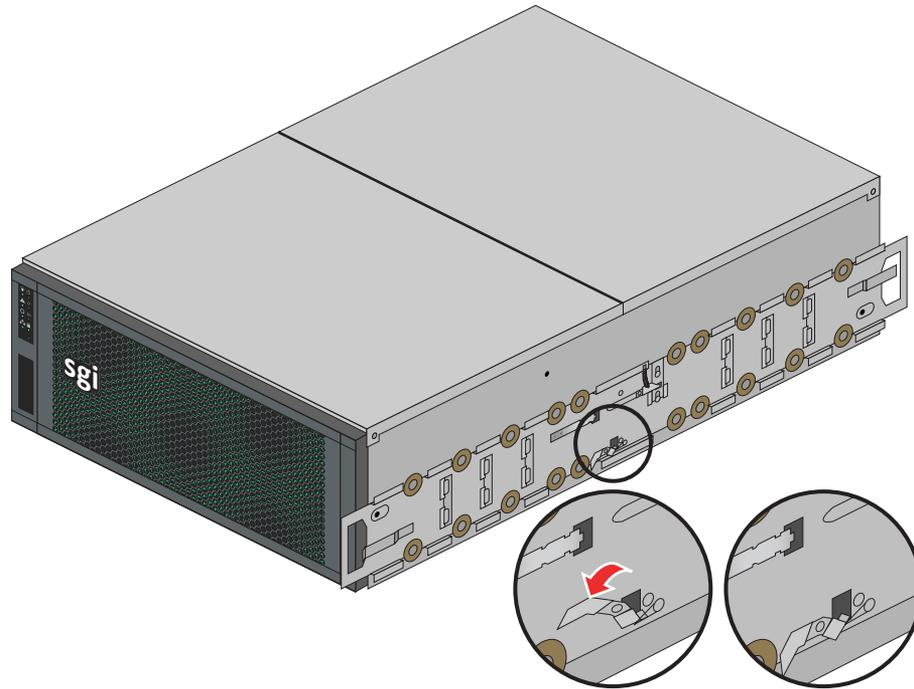

Figure 2-10 Return Latch to Home Position
5. You may have to move aside a safety latch in order to install some rolling rail screws. Be sure to set the safety latches back to their home positions after rolling rail installation is complete (see Figure 2-10 on page 22).